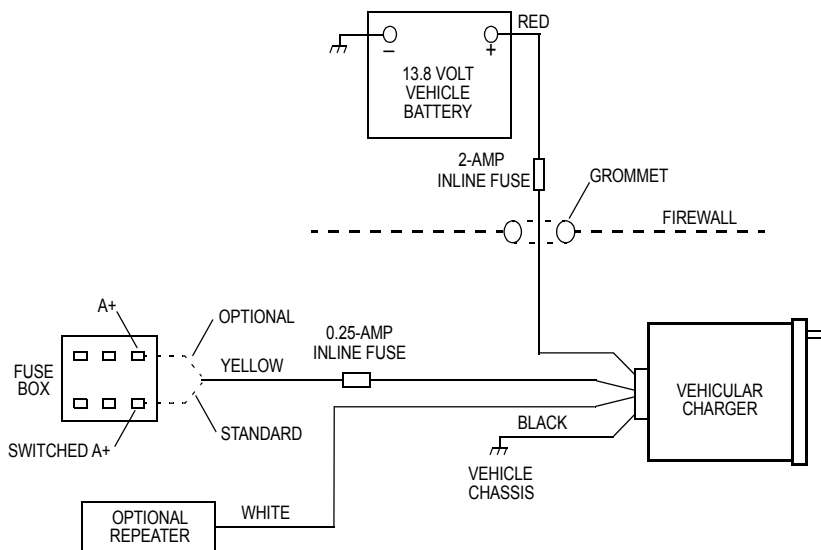

Figure 5 Cable Console
7. Referring to Table 2 and Figure 5, connect the red (A+) wire (with the inline fuse) of the supplied cable to either an unswitched terminal on the vehicle's fuse box or directly to the positive (+) terminal of the vehicle's battery. Always position the fuse as close to the voltage source as possible.